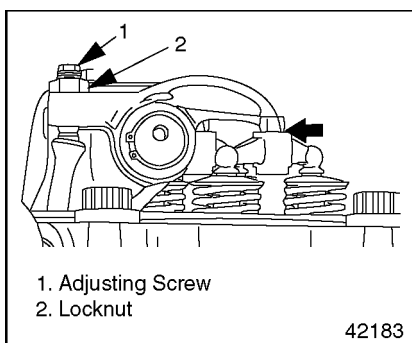

Figure 23 Valve Lash Adjustment
1. If adjustment is needed, loosen the locknut. See Figure 23.